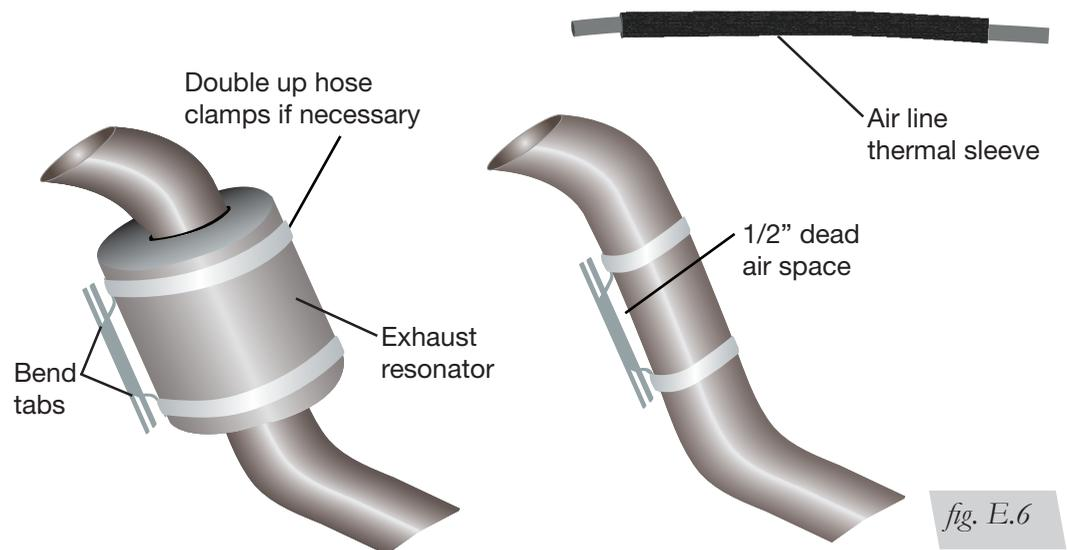

fig. E.6
1. Attach the metal heat shield to the exhaust where it is closest to the air spring. Slide the air line thermal sleeve over the air line and place it where the air line is closest to the exhaust (Fig. E.6).